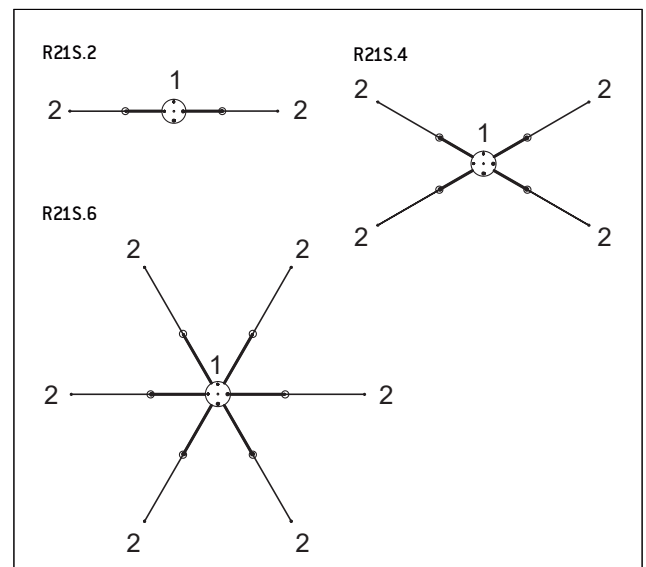

Figure 1
1- Place the template on the ceiling and fasten it with adhesive tape. Consider the position of electrical cable outlet / junction box (1) and the gripper supports (2) to properly place them. Mark all the points on the ceiling and remove the template without damaging it. The template will be different depending on the number and position of the heads. Figure 1